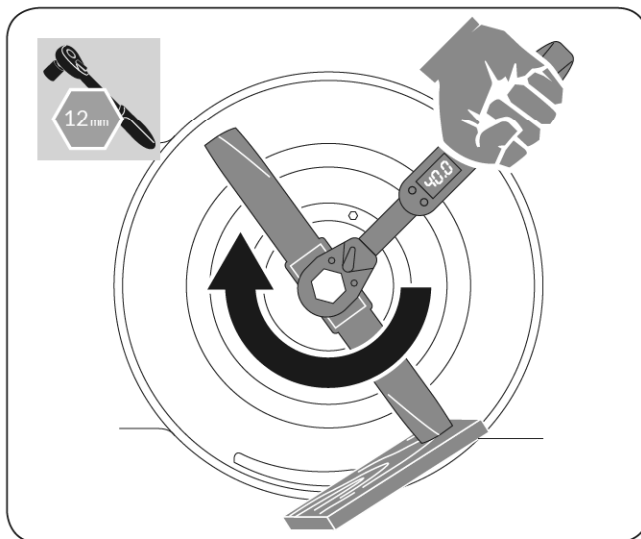

Figure 22
5. Install the new blade. Use a block of wood between the blade and lawn mower housing and tighten the blade bolt, turning clockwise. The recommended tightening torque is 45-55 Nm (33.3-40 ft.-lb.). (See **Figure 22**)